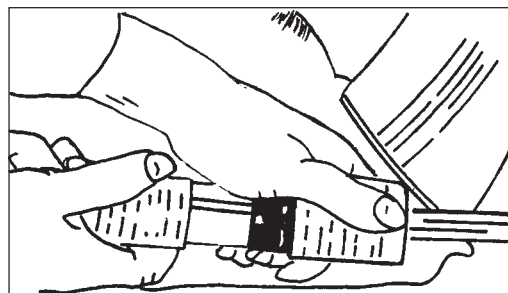

Figure 3
2. Make sure the control switch is in the "Off" position then connect the supply cable to an appropriately grounded fused circuit. Connect the supply cable to the motor pigtail. (Figure 3)